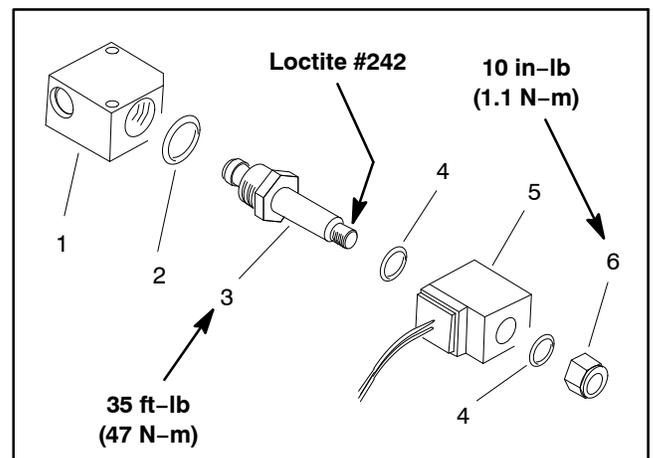

Figure 78
11. If needed, disassemble solenoid valve manifold using Figure 78 as a guide.
2. If removed, assemble solenoid valve manifold (Fig 78):